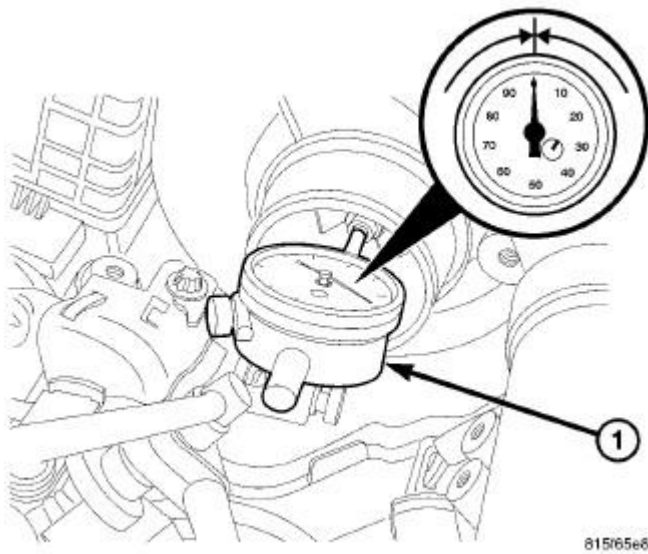

Fig. 556: MEASURING TURBOCHARGER END PLAY
- a. Install a dial indicator (1) as shown in **Fig. 556**. Zero the indicator at one end of travel.